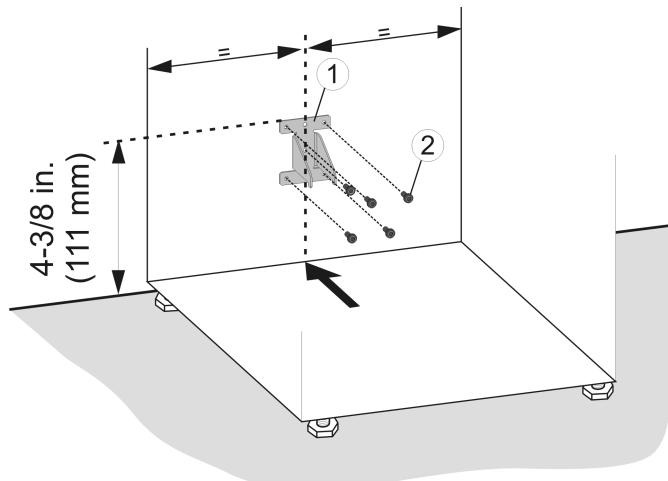

Fig. 12
- Install the anti-tip device *Fig. 12 (1)* using appropriate screws *Fig. 12 (2)*.